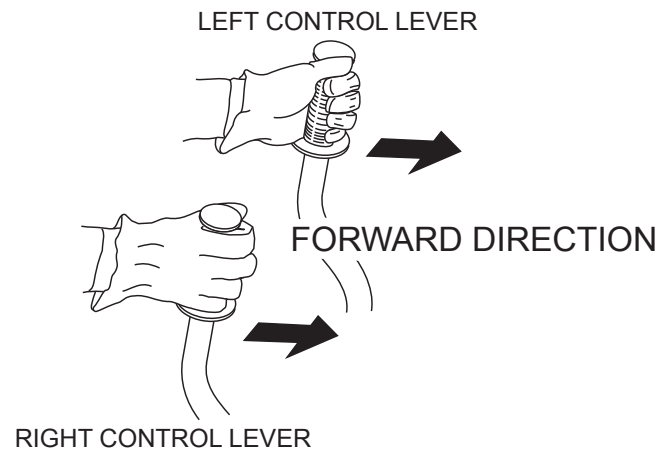

Figure 14. Left and Right Control Levers
1. Push both the left and right control levers forward. See Figure 14.